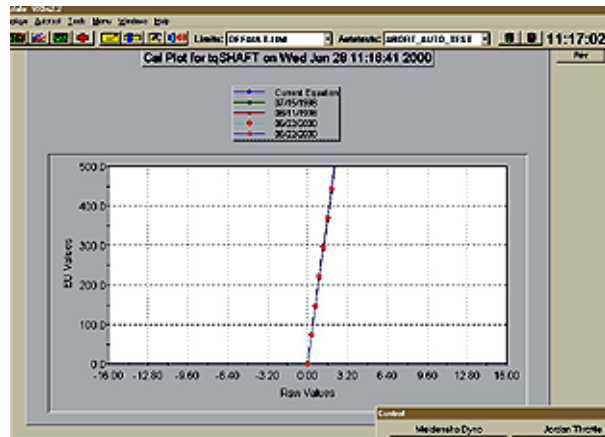

Figure 9
- 147 The “Cal Plot for tqSHAFT” appears. See Figure 9. Verify that the plot forms a straight line.